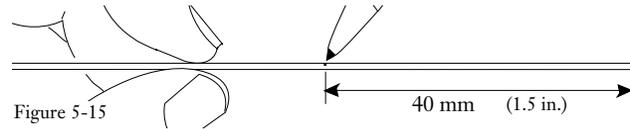

Figure 5-15
5.4-2 Measure and mark 40 mm (1.5 in) from the end of the buffered fiber (Figure 5-15).